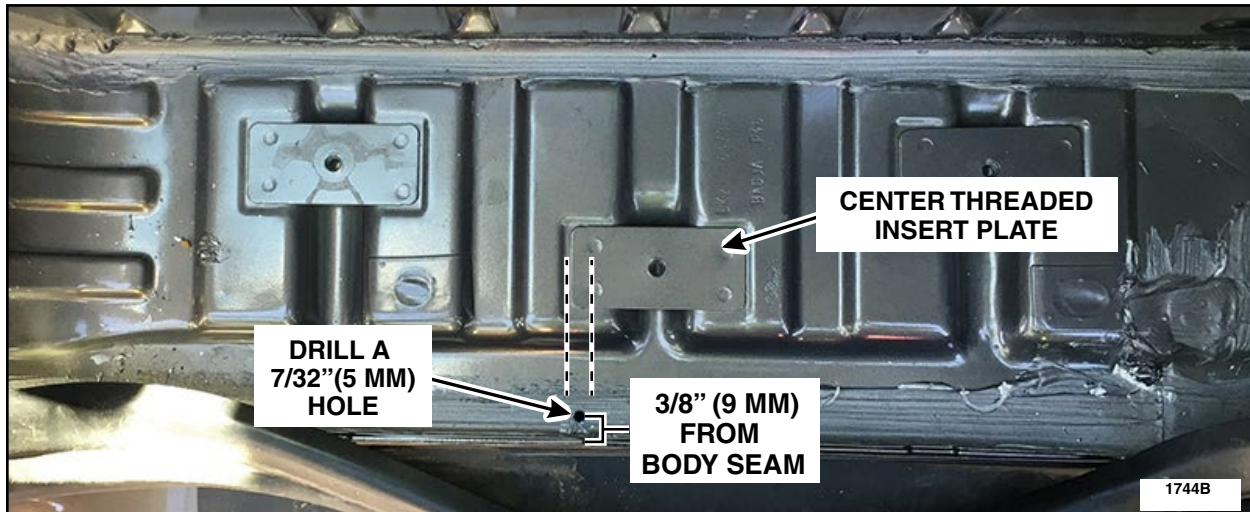

FIGURE 4
- Using a center punch and a 7/32" (5 mm) drill bit, drill a hole located 3/8" (9 mm) inboard from the body seam, and between the left edge and spot welds of the center threaded insert plate. See Figure 4.